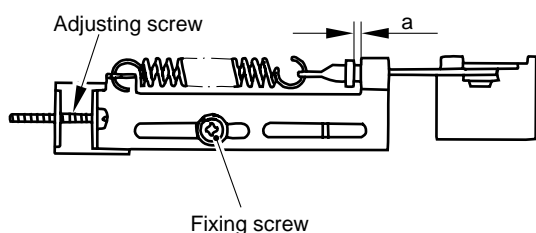

Figure 4-205
- 3) Turn the tension adjusting screw so that the distance *a* in Figure 4-205 is as indicated.